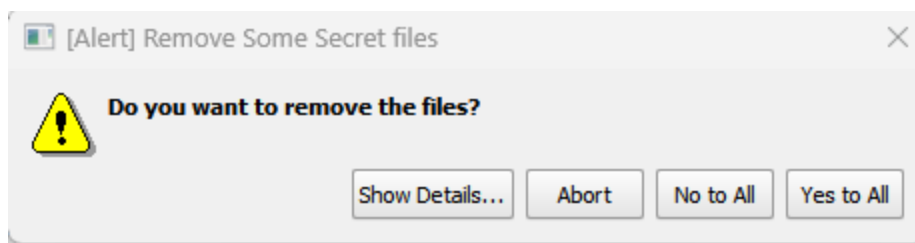

Figure 51. Prevent accidental removal of secret keys in Secure RMA
2. When prompted, to remove all secrets, click **Yes to All** (Figure 51).